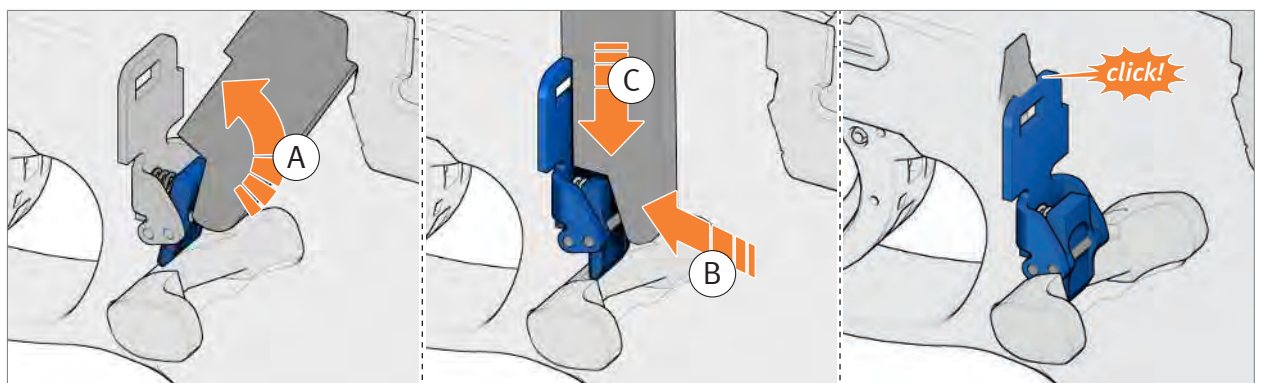

Fig. 32: Latch in the magazine catch
4. Press the detent piece on the magazine catch with the tool and hold it down (*Fig. 32*).
5. Push the magazine catch downwards until the magazine catch latches (*Fig. 32*).